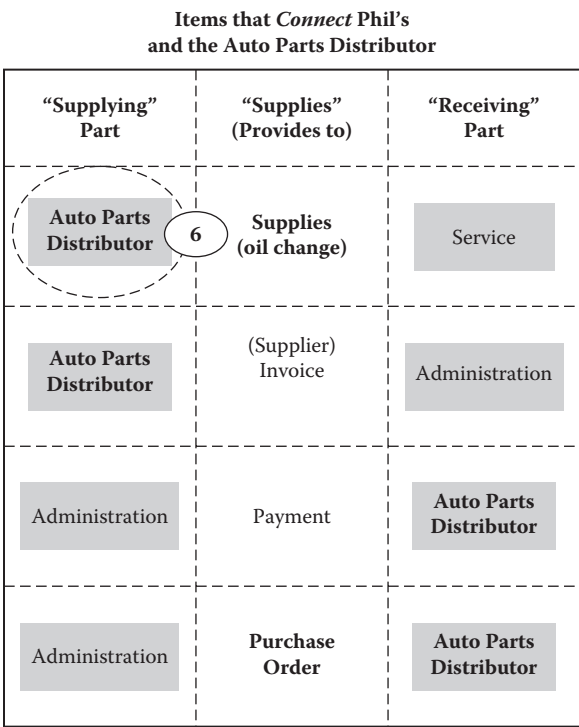

Figure A.5 Phil's Quick Lube supply chain for Order to Delivery oil change.
6. Define the **external** supplier–customer relationships, starting with the **external supplier**. This will help you identify the supply chain (Figure A.5).